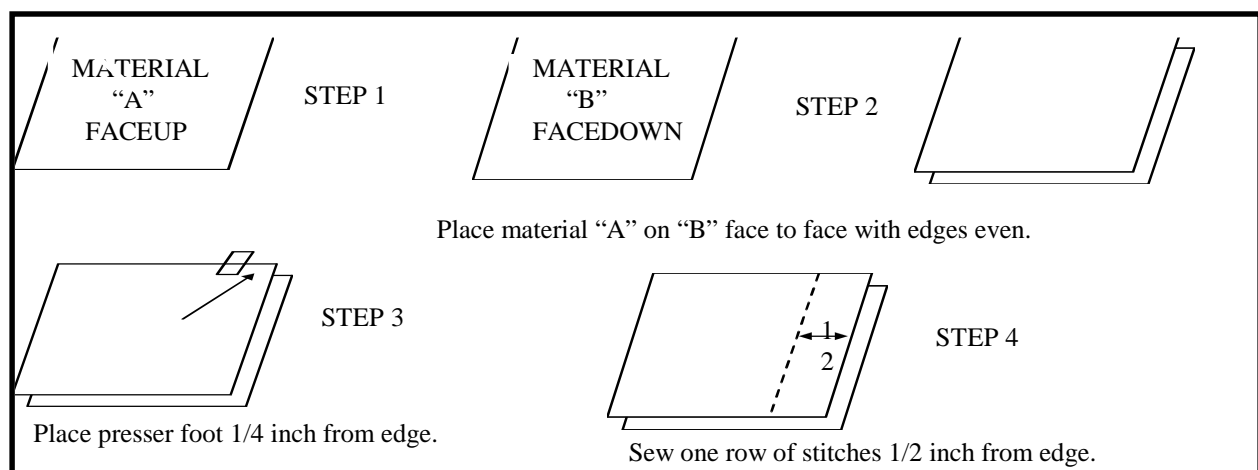

Figure 3-8. Simple seam
a. Plain or Simple. The plain or simple seam (Figure 3-8) is the easiest seam to sew. It uses one row of stitches to join two pieces of cloth. This seam is used when a finished seam edge is not required, such as open side seams that must be mended. It is also used to mend straight and L-shaped tears when little or no material is missing. To make a simple seam--
- (1) Place the material together face to face (all four edges square).
- (2) Mark the edge of the material  $\frac{1}{2}$  inch from the raw edge on the 8-inch length.
- (3) Place the material on the machine so that the mark is in a vertical position.
- (4) Start at the top of the marking on the edge of the material and stitch down to the bottom edge of the material. Allow a 1 inch tack stitch at both ends of the material not less than  $\frac{7}{8}$  inch or more than  $1\frac{1}{8}$  inches.
- (5) Press the seams open with an iron.